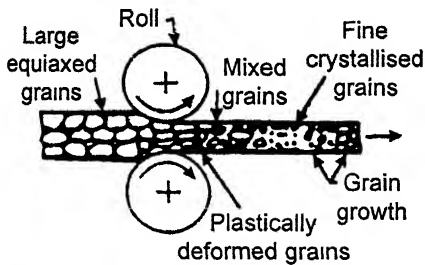

Fig. 9.5. Grain structure during hot rolling.
**Hot rolling** consists of taking the hot ingot from a soaking pit, where it has been kept at an elevated temperature, and rolling it first into blooms (large oblong squares) and then through a series of other rollers into structural shapes, pipe, and tubing. Steel is nearly always rolled hot except for finishing passes on sheet. Copper is also rolled to rod, for making wire. Brass and nickel silver are usually cold rolled with many intermediate annealings. Fig. 9.5 illustrates grain structure during hot rolling. It is desirable that in all hot working the metal be heated throughout to the proper temperature before processing. If the temperature is non-uniform work hardening and crack may result.